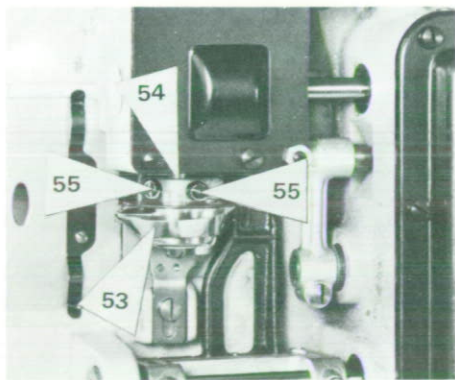

Fig. 27
To achieve this setting, the hook (53) must first be brought to the correct position. After loosening the two fixing screws (55) and twisting the hook spindle (54), it can be brought to the required position (see Fig. 27). It should be noted that the lateral distance of tip of hook from needle must be 0.05 mm. The hook securing screws are then re-tightened. The clamping piece (64) can be removed from the needle bar and the needle height adjusted.